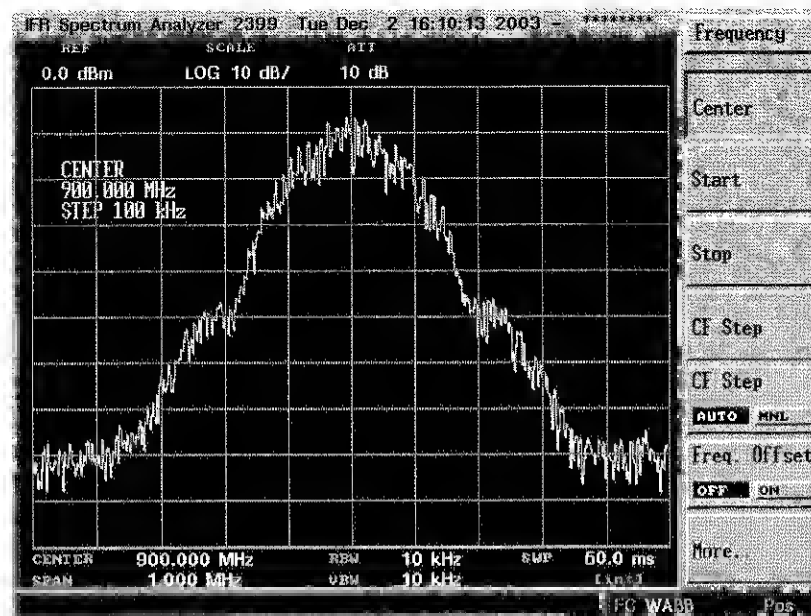

Fig. 6-12 Spectrum analyzer display showing GMSK modulated carrier
- 6 The trace on the spectrum analyzer should appear as shown in Fig. 6-12.